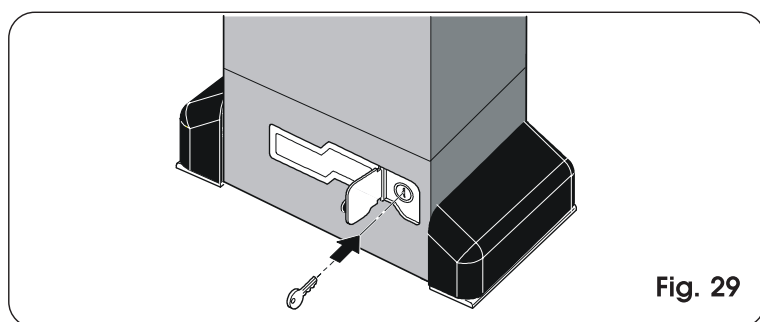

Fig. 29
- 2) Open the protective door and fit the supplied key in the lock (Fig. 29).